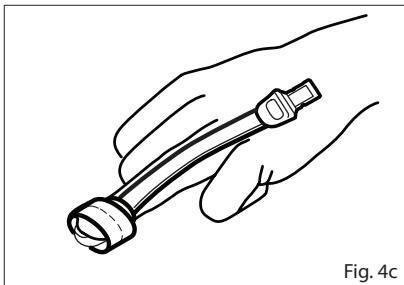

Fig. 4c
- Refer to Fig. 4c. Ensure that the emitter window (\*) aligns on the top of the finger directly opposite the detector. Verify correct positioning and reposition if necessary.